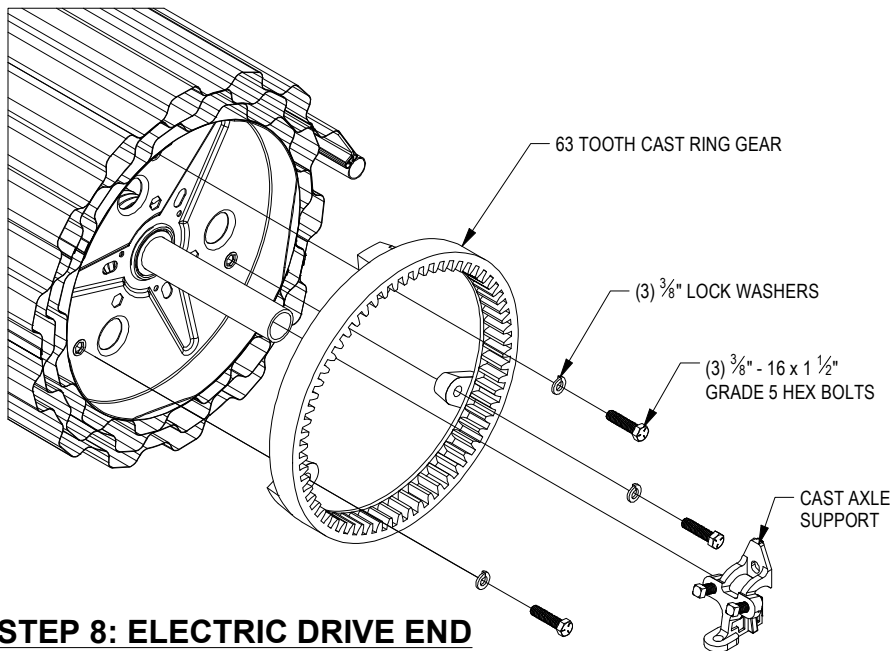

FIGURE 14:
- ▶ Fasten 63 tooth cast ring gear to drum using three (3) each 3/8" - 16 x 1-1/2" grade 5 hex bolts and 3/8" lock washers.
- ▶ Install two (2) each 3/8" - 16 x 1" square head setscrews in the threaded holes in the cast axle support bracket. These will be tightened against the axle later.
- ▶ Slide cast axle support bracket over axle. **See Figure 14.**